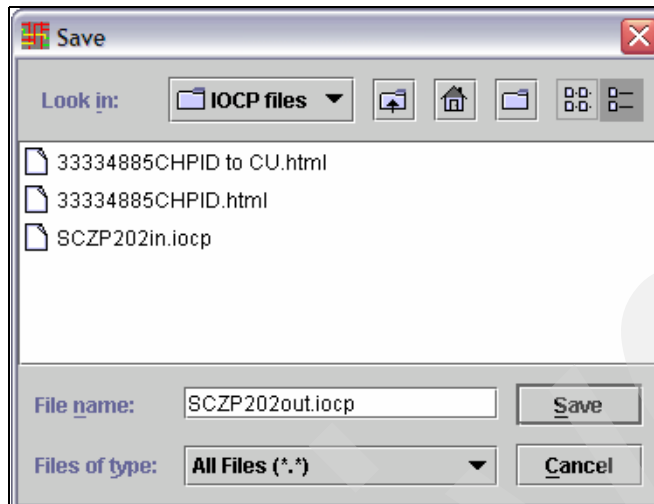

Figure 3-71 CMT - Save IOCP output file
2. Enter the File name and location for the IOCP output file and click **Save** (Figure 3-71).